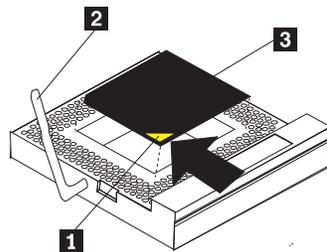

Figure 49. Aligning the microprocessor
- c. Center the microprocessor over the microprocessor connector aligning the gold alignment arrow on the corner of the microprocessor with the cut-out arrow on the connector. See Figure 49.